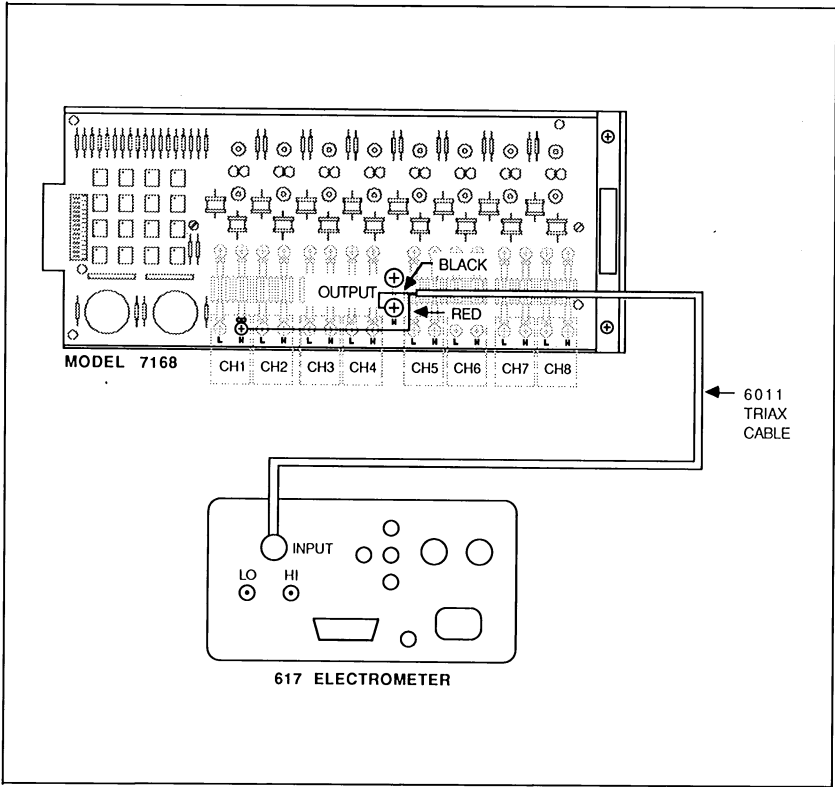

Figure 4-5. Connections for Leakage Current Verification
4. Connect the Model 6011 triax cable HI (red) lead to channel 1 INPUT HI (see Figure 4-5).
5. Connect the Model 6011 cable LO (black) lead to OUTPUT HI, as shown in Figure 4-5.